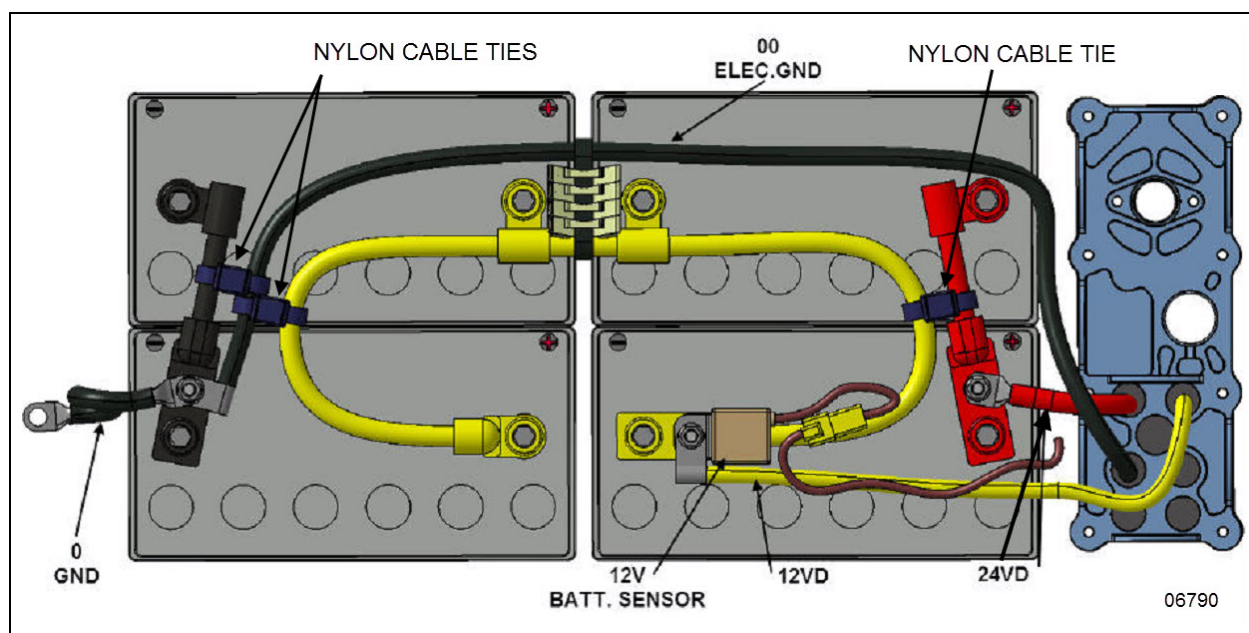

FIGURE 28: AGM BATTERY CONNECTIONS
This vehicle is equipped with PRIME energy management system, it is provided with four (4) Absorbed Glass Mat (AGM) 12-volt batteries connected in series-parallel (**FIGURE 28**).